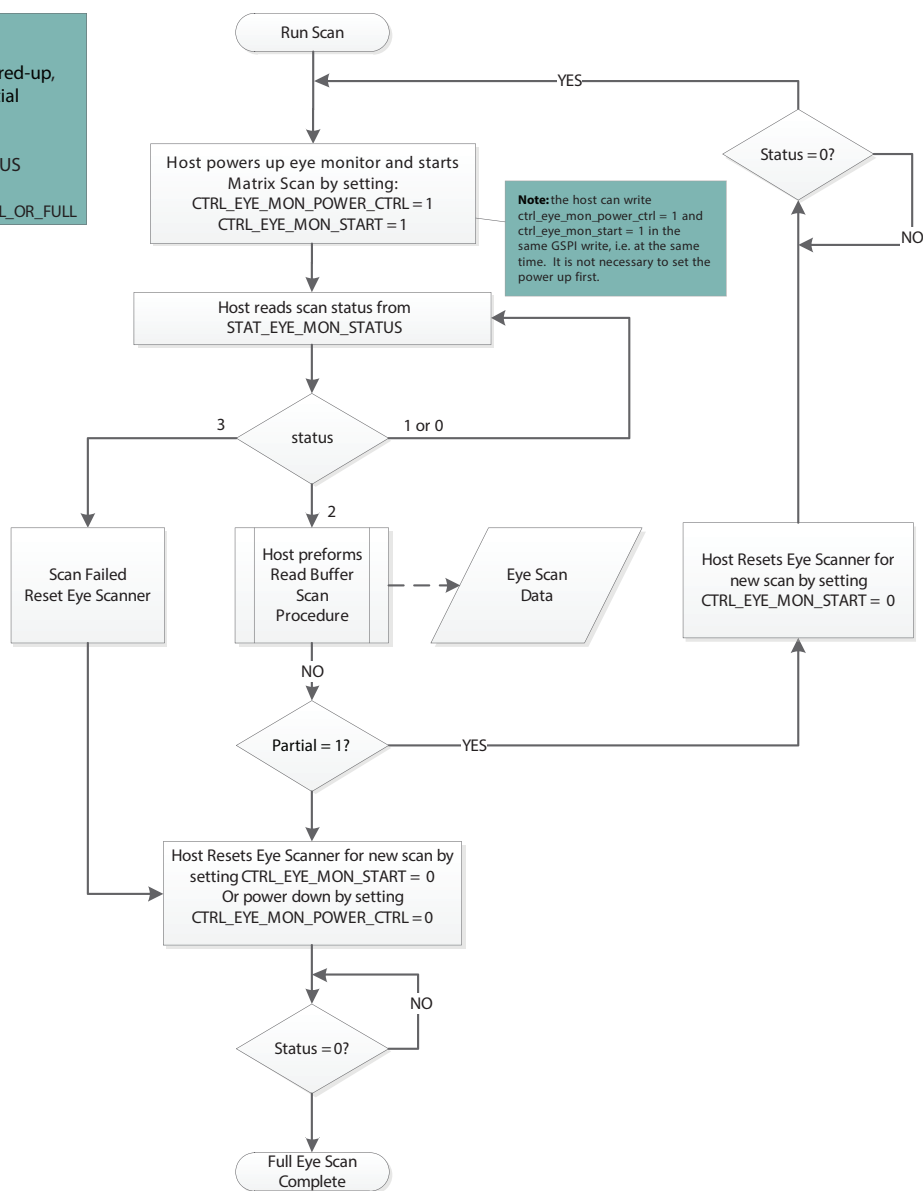

Figure 4-9: Matrix-Scan Flow Diagram
4. Start the scan and poll the scanner status register until the scan is complete. Please refer to the flow diagram in Figure 4-9.